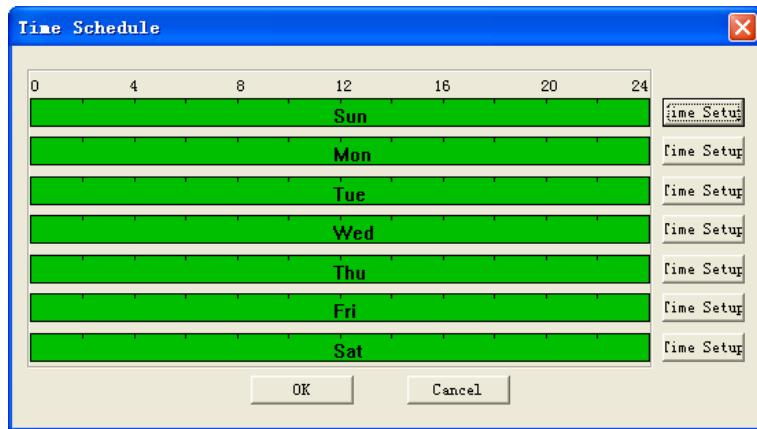
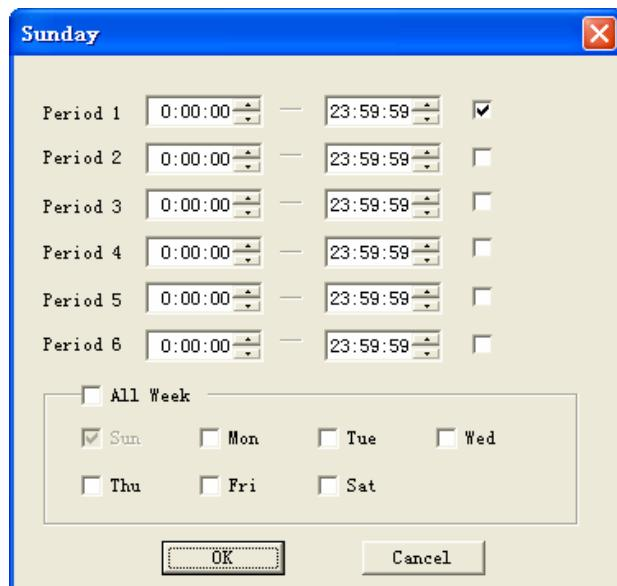

Figure 7-39
Figure 7-40
- ❖ Period: Here is for you to set record period. Click set button, you can see an interface is shown as in Figure 7-39. In Figure 7-39, click time set button, you can see an interface is shown as in Figure 7-40. Here you can set time period.